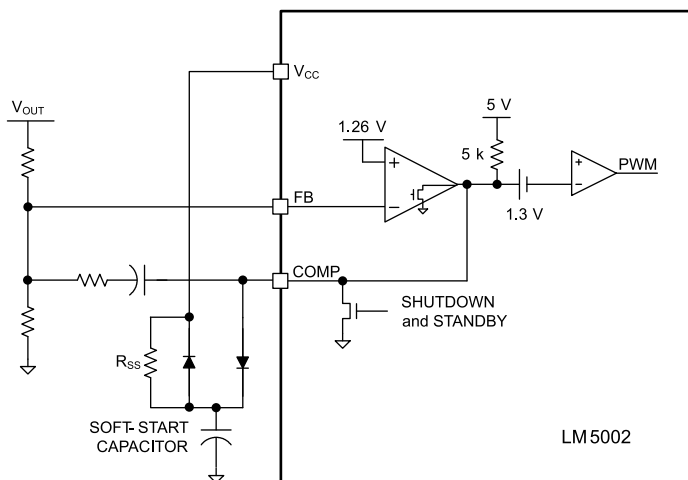

Figure 8-4. Soft-Start Circuit
Internal thermal shutdown circuitry is provided to protect the IC in the event the maximum junction temperature is exceeded. When the 165°C junction temperature threshold is reached, the regulator is forced into a low power standby state, disabling all functions except the VCC regulator. Thermal hysteresis allows the IC to cool down before it is re-enabled. Note that because the VCC regulator remains functional during this period, the soft-start circuit shown in Figure 8-4 must be augmented if soft start from thermal shutdown state is required.
Soft start (SS) can be implemented with an external capacitor connected to COMP through a diode as shown in Figure 8-4. The COMP discharge MOSFET conducts during Shutdown and Standby modes to keep the COMP voltage below the PWM offset (1.3 V), which inhibits PWM pulses. The error amplifier attempts to raise the COMP voltage after the EN pin exceeds the 1.26 V standby threshold. Because the error amplifier output can only sink current, the internal COMP pullup resistor (approximately 5 k Ω) supplies the charging current to the SS capacitor. The SS capacitor causes the COMP voltage to gradually increase until the output voltage achieves regulation and FB assumes control of the COMP and the PWM duty cycle. The SS capacitor continues charging through a large resistance, R_{SS} , preventing the SS circuit from interfering with the normal error amplifier function. During shutdown, the VCC diode discharges the SS capacitor.